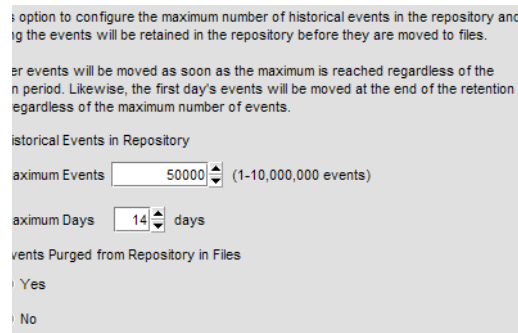

FIGURE 25 Options dialog box (Event Storage pane)
2. Select **Event Storage** in the **Category** list (Figure 25).